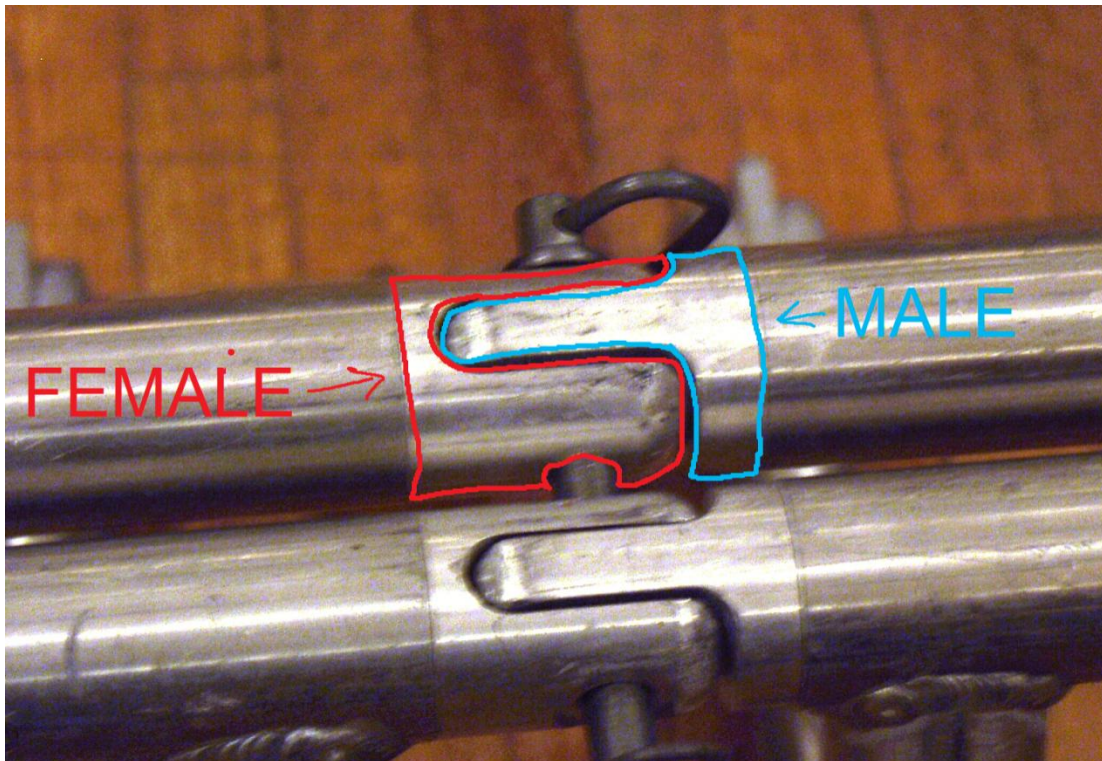

Figure 4: The male and female connectors on the triangle truss
2. Once you get the truss to the first floor, you'll want to unfold them and line them up on the ground below where they will be hung. Of course, you should be sure to line up the male and female ends with each other so that they'll be able to connect. (see Figure 4).
3. After they're lined up, and you're certain that it's where they will be hung, you can connect the pieces and insert the pins to hold them together. There are two different sized pins that will be used – the smaller ones are for the two ends that pull apart, and the bigger ones are for the hinged part at the top. You should note that it is typically easier if you put in the bigger pins first. You can see a close up of one of the larger pins in Figure 4 connecting the male and female ends of the top of the truss.